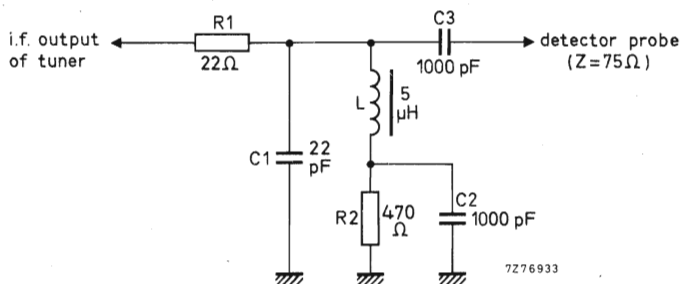

Fig. 10.
I.F. output of the tuner terminated with a modified circuit of Fig. 10, i.e. a 100 pF capacitor is connected in parallel with C1 and R1 is short-circuited; tuning voltage is 15 V.
* I.F. output of the tuner terminated with the circuit shown in Fig. 10; tuning voltage is 15 V.
The tuner needs normal supply voltages and a tuning voltage of 15 V; the i.f. output should be loaded with the circuit shown in Fig. 10.
The i.f. output of the tuner should be terminated with the RC-circuit given in Fig. 10.